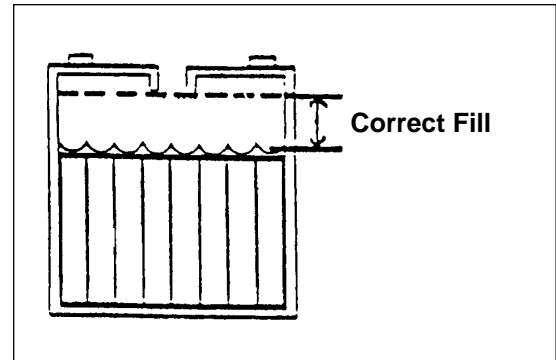

Figure 4
1. Keep the electrolyte at the correct level. The correct level is between 1/4" (1/2 cm) below the bottom of the tube in each cell and above the tops of the plates. Check the level of the electrolyte each time you charge the batteries (see figure 4).